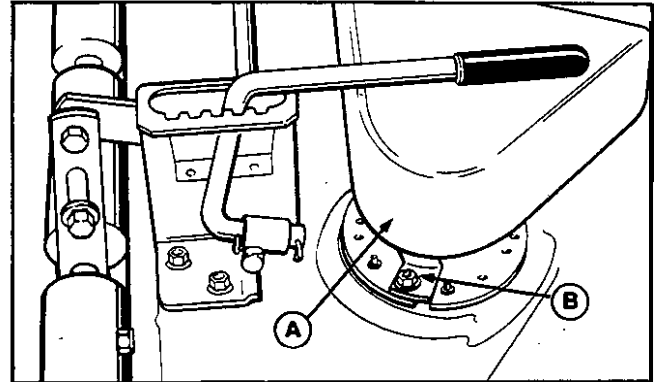

Figure 1.
- b. Remove the right hand arbor cover (A, figure 1) by removing washers and nuts in front that hold cover to deck. Also, remove nuts (B) and washers that secure rear tabs to arbor.